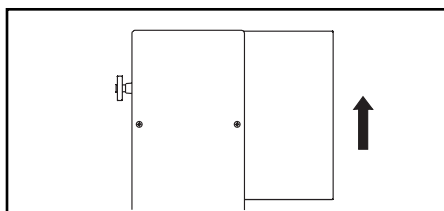

Fig 1B
4. Carefully lift cover up just enough to clear rear panel lip. Fig. 1B